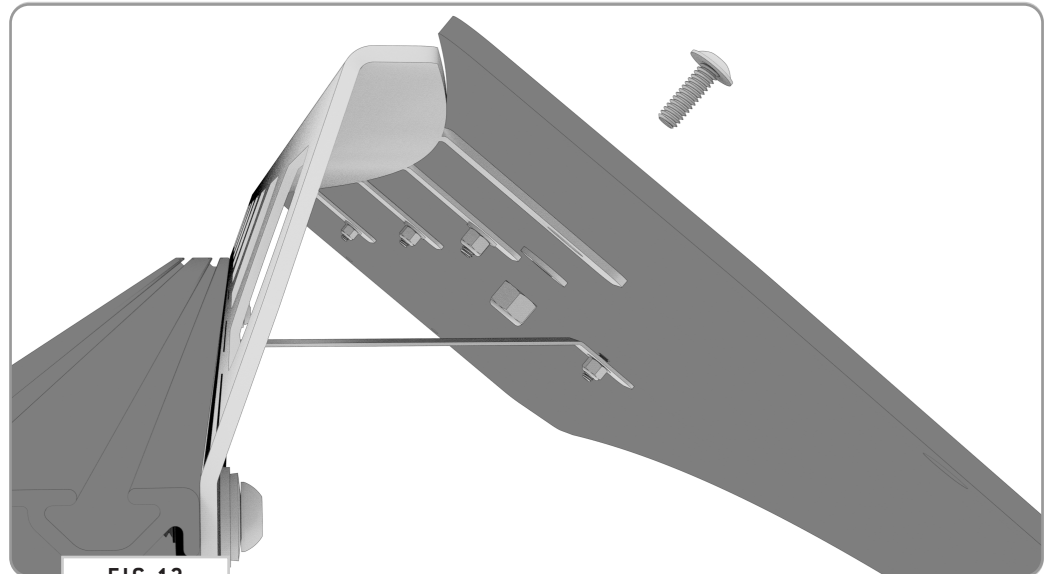

FIG 13
4.5 Attach Front Fairing: Attach the **Front Fairing** to the Assembly using **1/4-20 x 0.75 Flanged Button Head Screws, Flat Washers and Nylon Locknuts** (**FIG 13**).